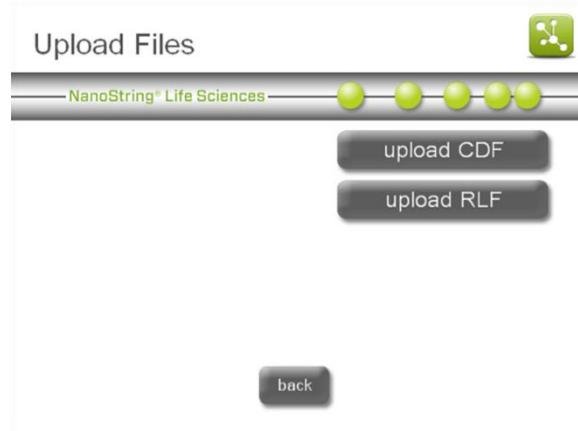

Figure 63: The ‘Upload Files’ screen.
2. From the Main Menu, press **Upload Files**. The ‘Upload Files’ screen will appear (**Figure 63**).